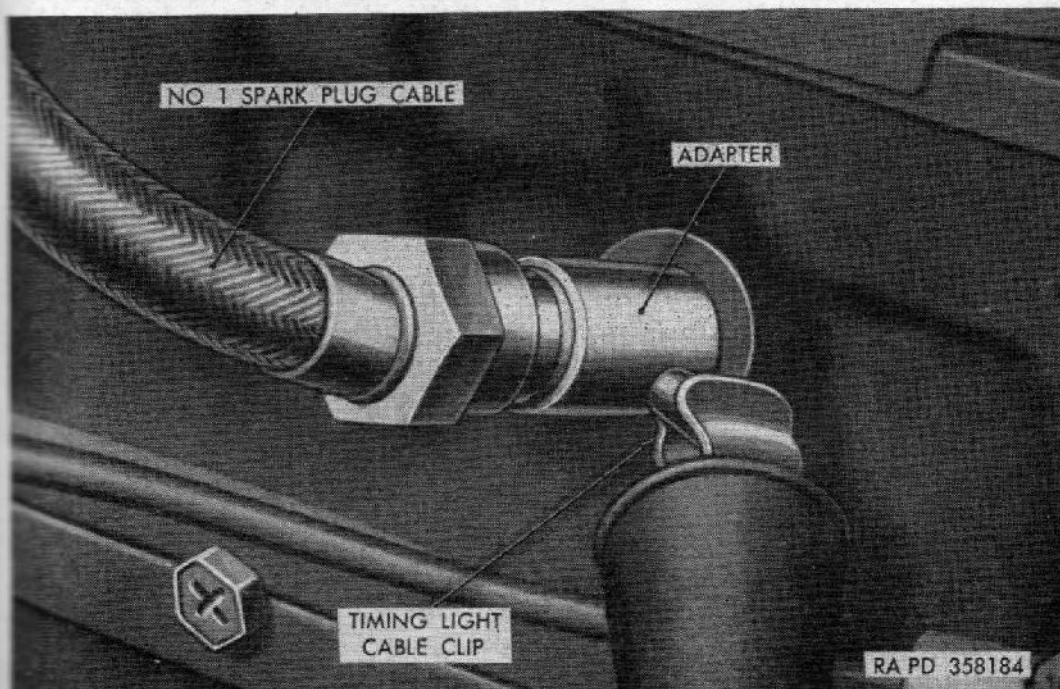

Figure 59. Timing light adapter installed.
*a. General.* The timing of the ignition consists of the setting of the distributor mechanism to cause opening of distributor breaker points at correct firing intervals. Due to the sealed design of the ignition system, an adapter (fig. 59) is required for connecting the timing light.
- (5) Remove spark plug cable from No. 1 spark plug. Thread adapter (fig. 59) onto spark plug; then connect No. 1 spark plug cable to adapter.
- (6) Connect one terminal of the timing light to the adapter (fig. 59) and connect the other terminal to the ground.